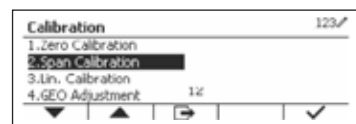

Figure 6
5. Exit Zero Calibration by pressing the softkey corresponding to the ✓ icon. (See Figure 6)